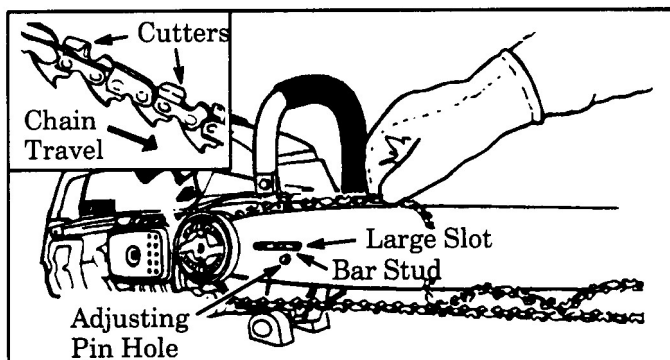

Figure 8
- Hold the chain with the cutters facing as shown in Figure 8 (inset).
- Start at the top of the bar and fit chain drive links into the groove around the guide bar. Figure 8.